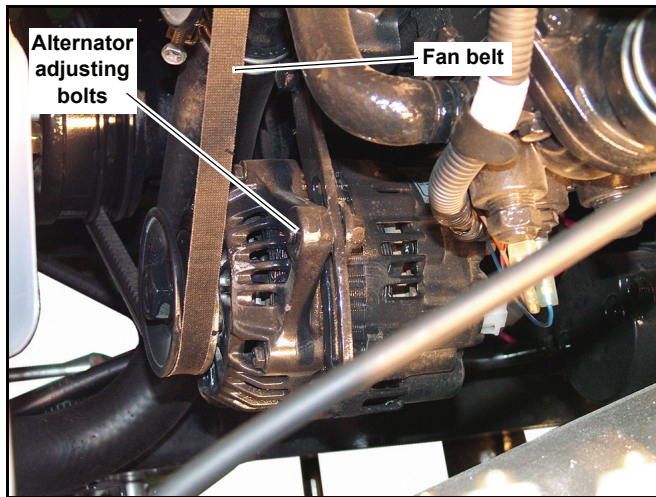

Figure 4-21
**NOTE:** Check the condition of the fan belt after every 50 hours of operation. Check fan belt tension after every 200 hours of operation. Figure 4-21
1. Loosen the alternator mounting bolts. Figure 4-21